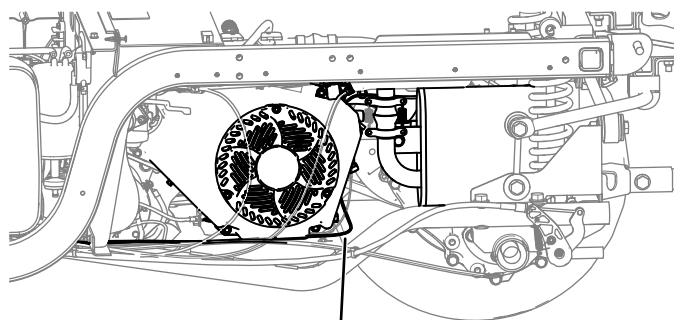

Figure 6
2. Route the kit wire harness along the left side of the engine following the machine wire harness and install cable ties as necessary (Figure 6).